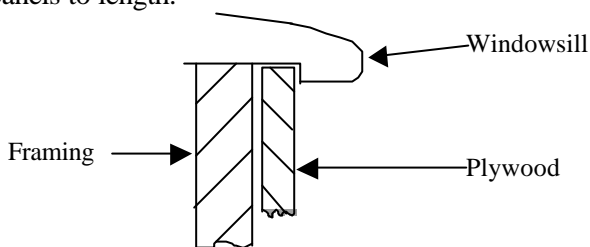

Fig 2
- Again temporarily fit the panels to car. (Note that the top of these should fit behind the windowsills – see fig 2.)